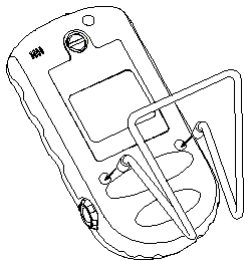

Figure 2-3 Fixing Holder
- 4) Fixing Holder, as shown in figure 2-3.